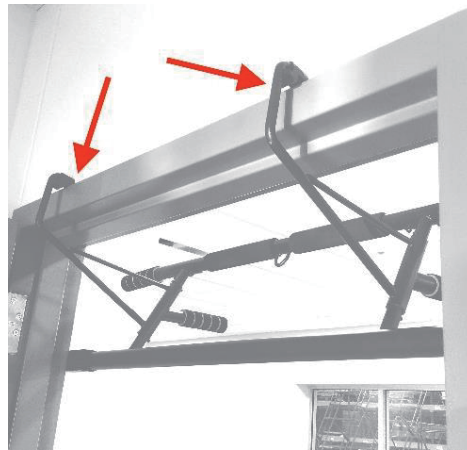

Figure 2
4. Hang the pull-up bar by the spring-loaded arms onto the doorframe lip (Figure 2).